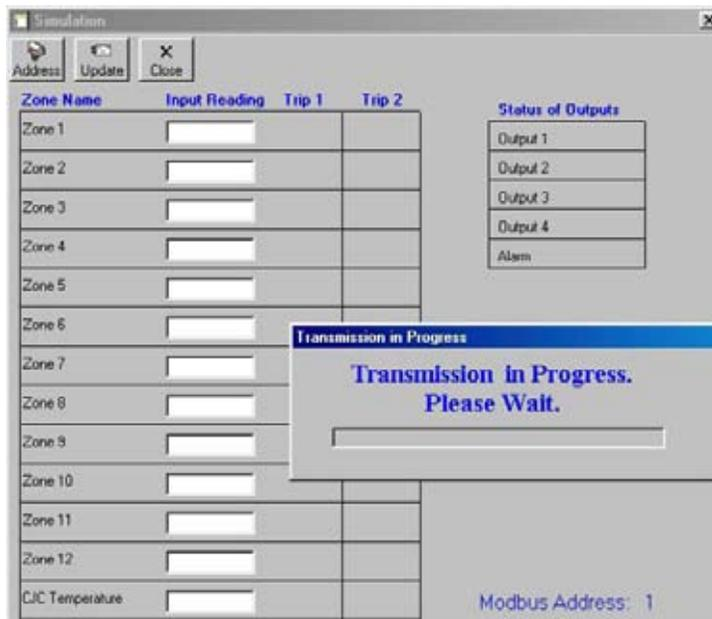

Figure 9
2. A new window will open and begin transmitting data from the CX224 to the computer (Figure 9).